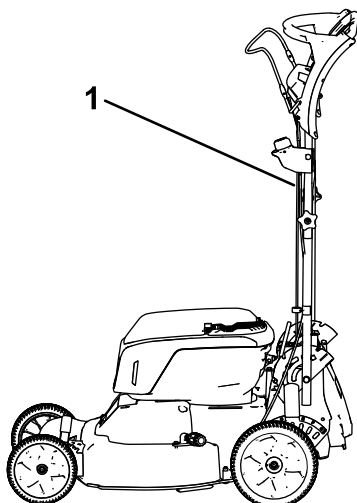

Figure 26
1. Lock the handle in the vertical position (Figure 26); refer to Adjusting the Handle Height (page 15).